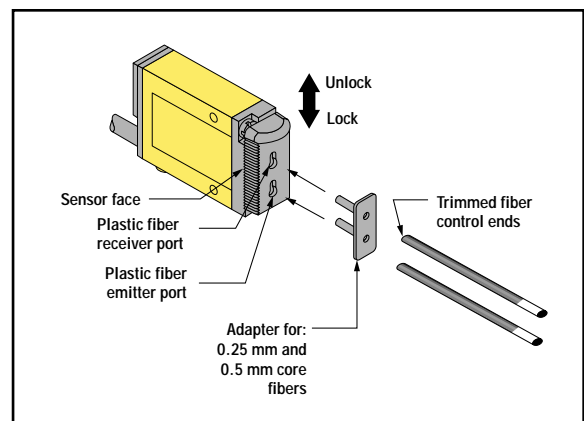

Figure 3. Installing fibers into the MINI-BEAM Plastic Fiber Optic sensor
- 1) Unlock the fiber gripper as shown in figure 3. If 0.25 mm or 0.5 mm core fibers are being used, insert the small fiber adapter into the ports.
- 3) Slide the fiber gripper in to lock, as shown in figure 3.